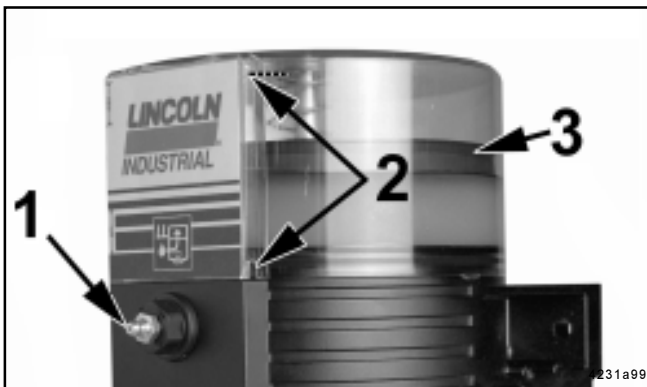

Fig. 18 - Fill reservoir up to the „Max.“ mark (QLS 301)
\* Fill the reservoir up to the „Max.“ mark via the filling nipple (1) (Fig. 18).